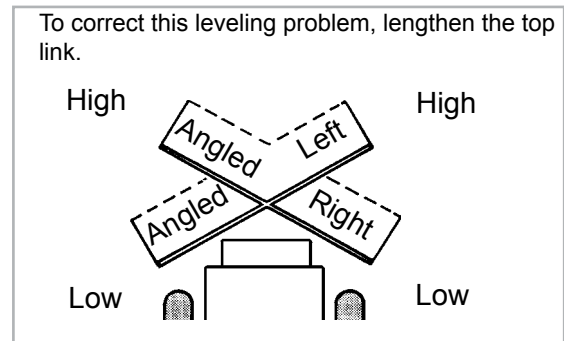

figure 5
- If measurements are not equal, level the mounting assembly with the toplink. Follow instructions shown in figures 5 and 6; repeat until the sweeper is level.